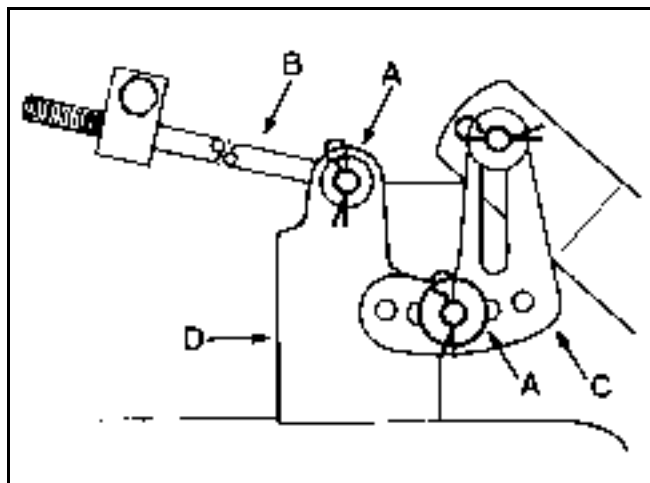

Figure 230
10. Remove the hairpin cotter and washer from the end of the long rod (Figure 230). Slide the rod out of the mower mount.
11. Remove the hairpin cotter and washer at the mower leveling bracket (Figure 230). Slide the bracket off the mounting pin. Re-install the washer and hairpin cotter for storage.